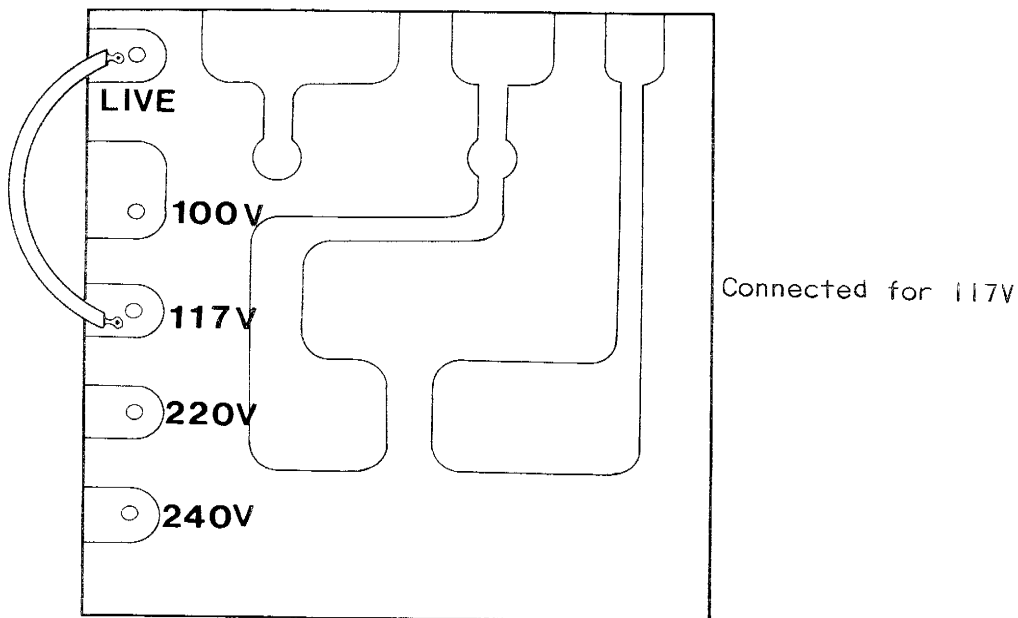

Figure 5-4 Voltage Selection Terminal
By looking at inside of transport from left side, it is easy to find the voltage selection terminal on the supply reel ass'y. (Refer to Figure 5-4)
2. Resolder the lead wire of the voltage selection terminal located on the supply reel ass'y to the desired voltage terminal marked as shown in Figure 5-4.